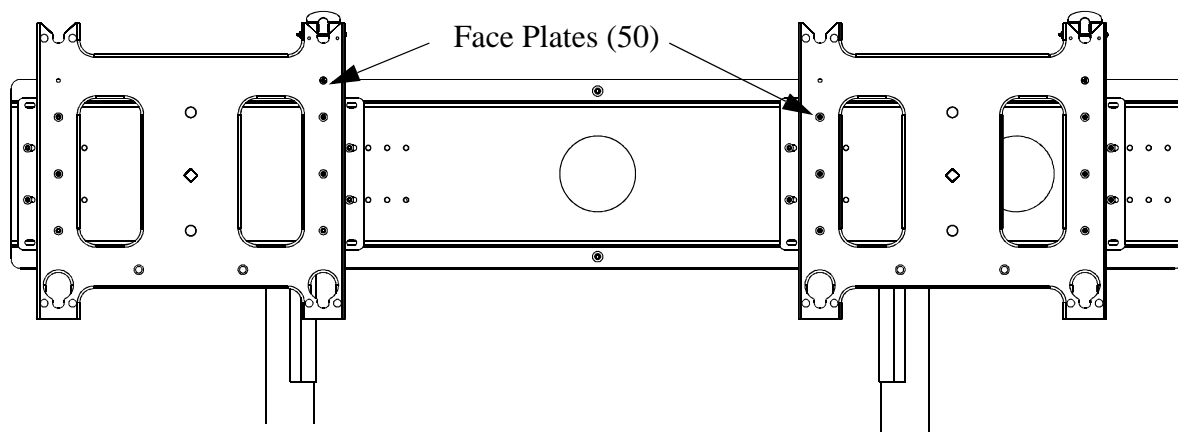

Figure 8. Dual Mounting Head with Face Plates Attached
3. Secure each face plate (50) using four 1/4-20x5/8" screws (130) (see Figure 8).